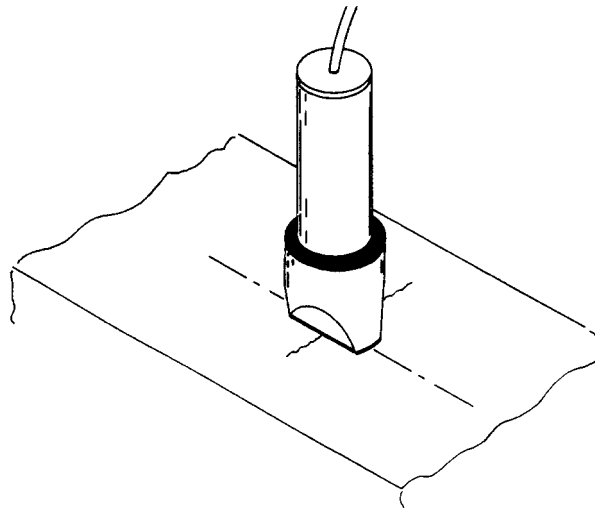

Figure 4 - Suggested measurement configuration
3. Place the MAT-4 handheld probe on the specimen on a non-cracked area and push down until the probe body is in contact with the specimen surface. Indication of a reliable contact is given when the current display on the CGM-7 has stopped adjusting and is within 1mA of the user set current. Additionally the user should wait until a steady reading on the LCD is obtained. Note down the reading. Follow the same procedure for the cracked region, making sure that the voltage contact correctly straddles the crack. Perform the calculation of equation 1 (page 6) where L is 4mm. A suitable configuration for the probe and leads is shown in figure 4.